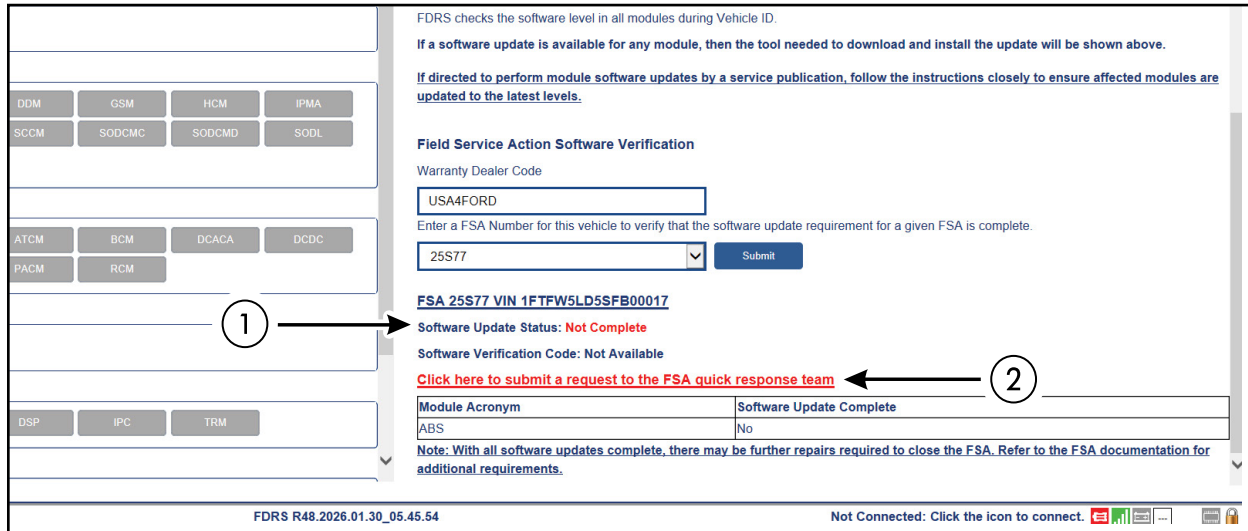

FIGURE 3
See Figure 3.
20. Use the "Click Here to submit a request to the FSA quick response team" link (2) shown in Figure 3. Follow the on-screen prompts to enter the following information: